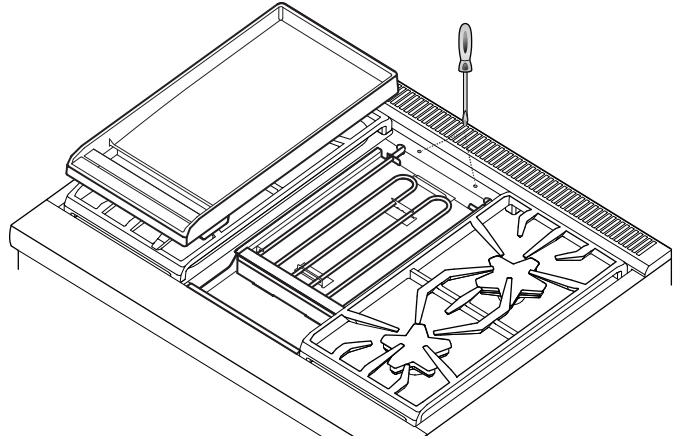

Figure 23: Griddle Plate Leveling Screws
3. Move the griddle plate to the side (*Figure 23*).
4. Adjust the two screws under the back of the plate. Start with one half turn counterclockwise of the screws (*Figure 23*).